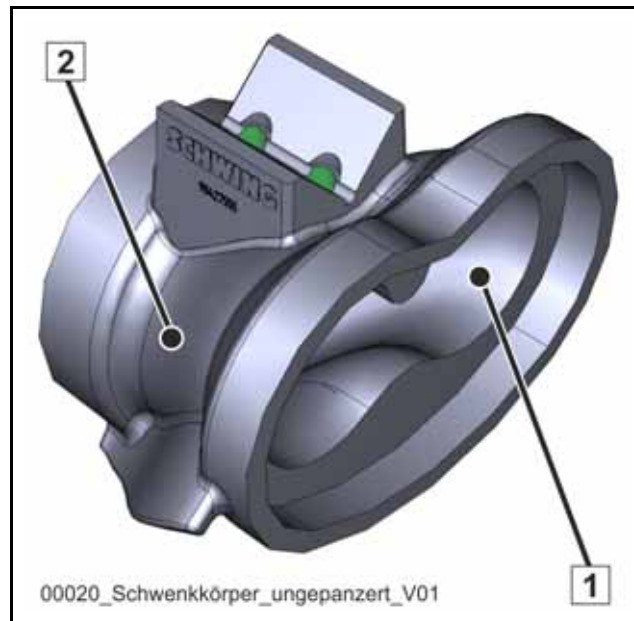

Fig. 319 Unarmoured swivel head (rock)
- unarmoured swivel head, see **(Fig. 319)**.
Caption (Fig. 319)